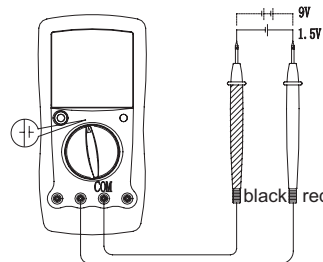

Figure 8
G. Battery Test (See Figure 8)